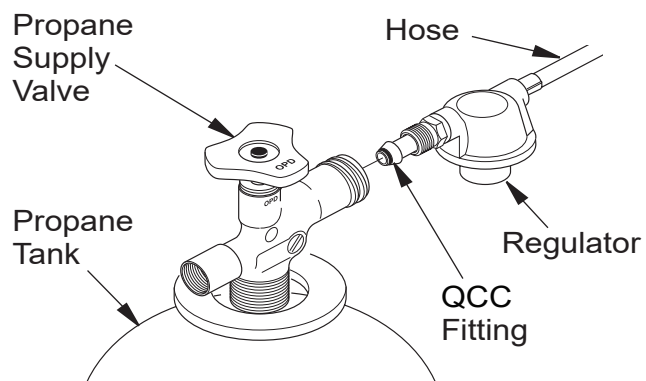

Figure 3 - Regulator Position
2. Connect QCC fitting on hose/regulator assembly to propane tank(s). Turn QCC fitting counterclockwise into threads on the tank. Tighten firmly using a wrench. **IMPORTANT:** Position regulator so that hose leaving the regulator is in a horizontal position (see Figure 3).